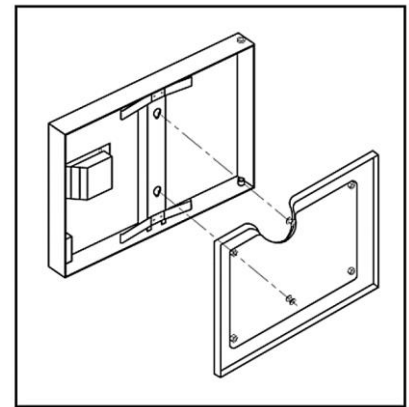

Figure 6-1 Door Gasket Assembly
- a) Remove the door gasket assembly (see Figure 6-1).